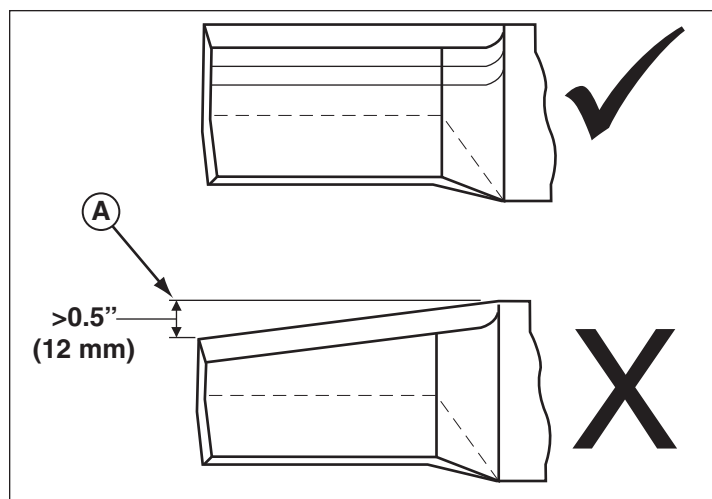

Figure 13. Inspecting the Mower Blade Tips
2. Inspect the mower blade (Figures 13 & 14). Discard the mower blade if it has any of the below conditions.
- A.) Has more than .5" (12,7 mm) of the mower blade metal removed from previous sharpening or wear (**A**, **Figure 13**).